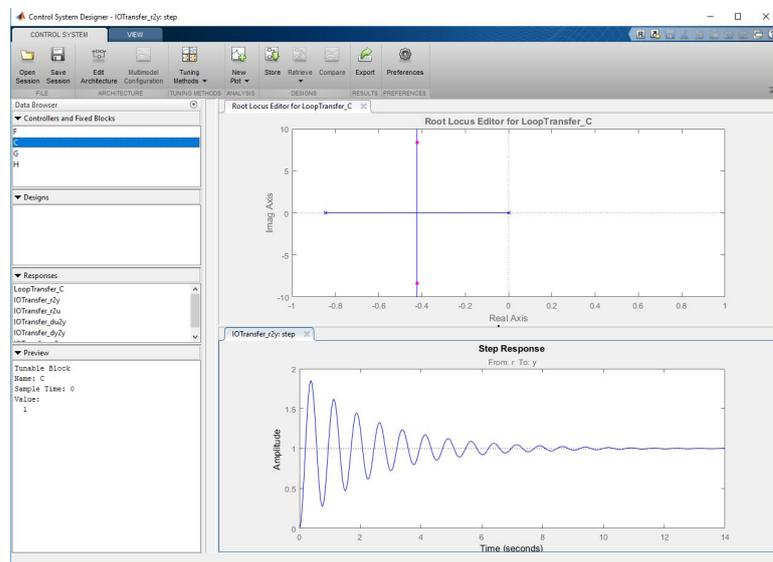

Figure 3.5: Root Locus
14. The step response that is shown will be for the default gain value of $K = 1$, since we did not change the default compensator value in the System Data window. The pole locations for this gain will be shown as small squares on the root locus plot, as shown in Figure 3.5. (Your root locus plot may look different than this figure, since you have a different motor transfer function.) You can grab the small square and move the closed loop poles. This will cause the gain K to change. (If you click on the C in the *Controllers and Fixed Blocks* subwindow at the upper left of the *Control System Designer*, the gain value will be displayed in the lower left *Preview* subwindow.) At the same time, the step response will change in the step response window. Save the root locus diagram for your lab notebook, and save the step response plot for a few different gain values. Discuss how these plots relate to the root locus and step response plots you made in Step 3.